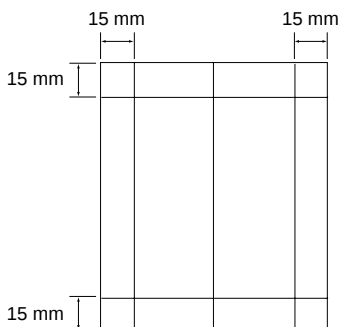

Figure 3-1-37
9. Prepare an original with four lines drawn 15 mm from the edges and one center line (see Figure 3-1-37).